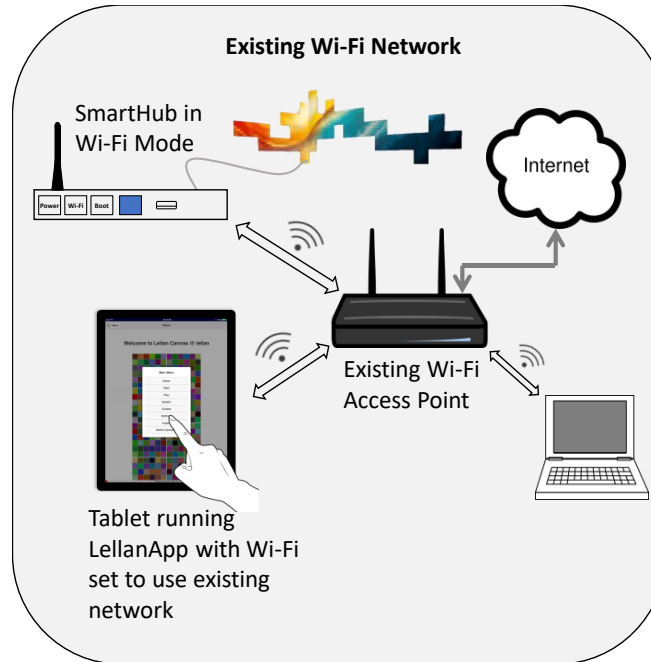

Figure 4-2: Wi-Fi Mode Illustrated
2. *Wi-Fi mode*: The SmartHub joins an existing local area network (LAN) via Wi-Fi. The app device joins the same network via either Wi-Fi or a hardwired Ethernet connection. Wi-Fi mode is illustrated in Figure 4-2.